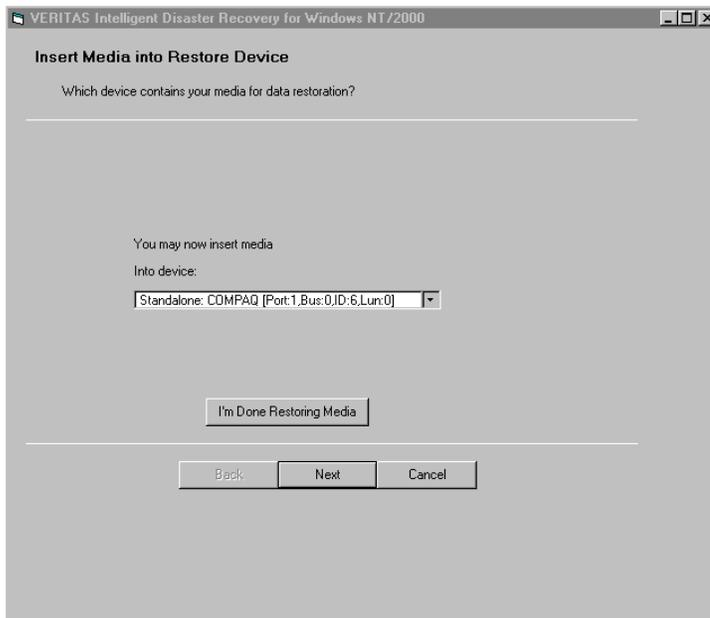

Figure 17: Insert Media screen
7. After the media device has been detected, you will be prompted to insert media into the device, as shown in Figure 17. Click Next to continue.